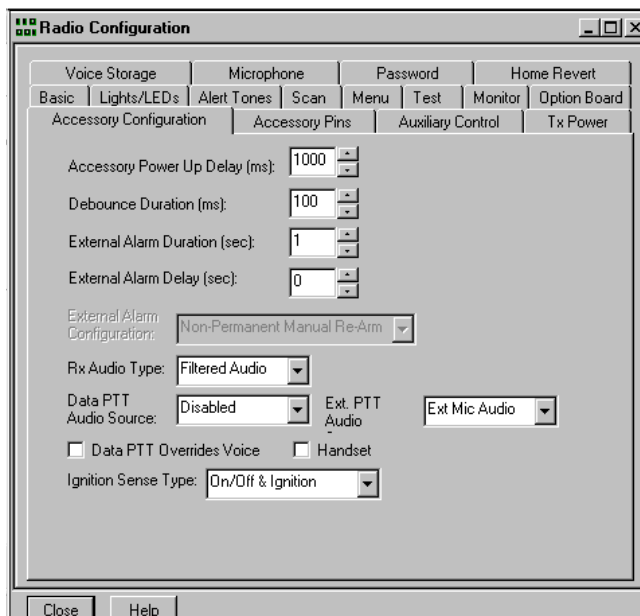

Figure 11-5. Radio Configuration, Accessory Configuration, Transmit Radio
- Click the “Ignition Sense Type:” dropdown arrow button. Select “On/Off & Ignition”. Your screen should appear similar to Figure 11-5.